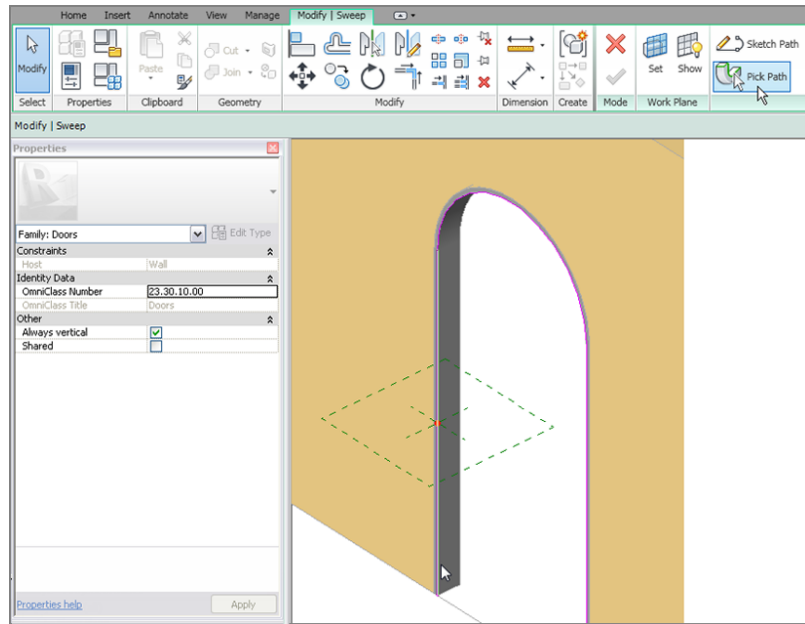

FIGURE 17.21: Picking the path for the sweep
1. Go to a 3D view (if you aren't there already), and position the view so that it looks like Figure 17.21.
4. Pick the inside corner of the jamb, starting with the left side (see Figure 17.21).